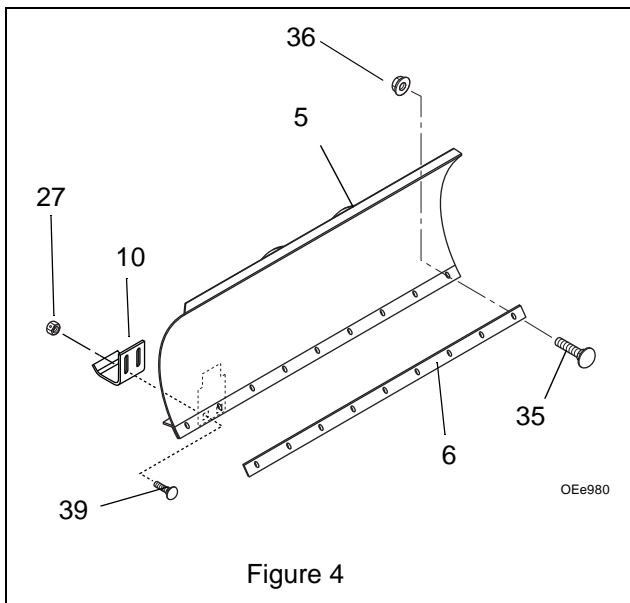

Figure 4
1. Assemble wear plate (item 6) to 54-inch snow blade (item 5) with nine 5/16-18 x 3/4 round head square neck bolts (item 35) and 5/16-18 top lock flange nuts (item 36). See Figure 4.
2. Assemble skid shoes (item 10) to the 54-inch snow blade (item 5) with 3/8-16 x 1 round head square neck bolts (item 39), and 3/8-16 top lock nuts (item 27). See Figure 4.